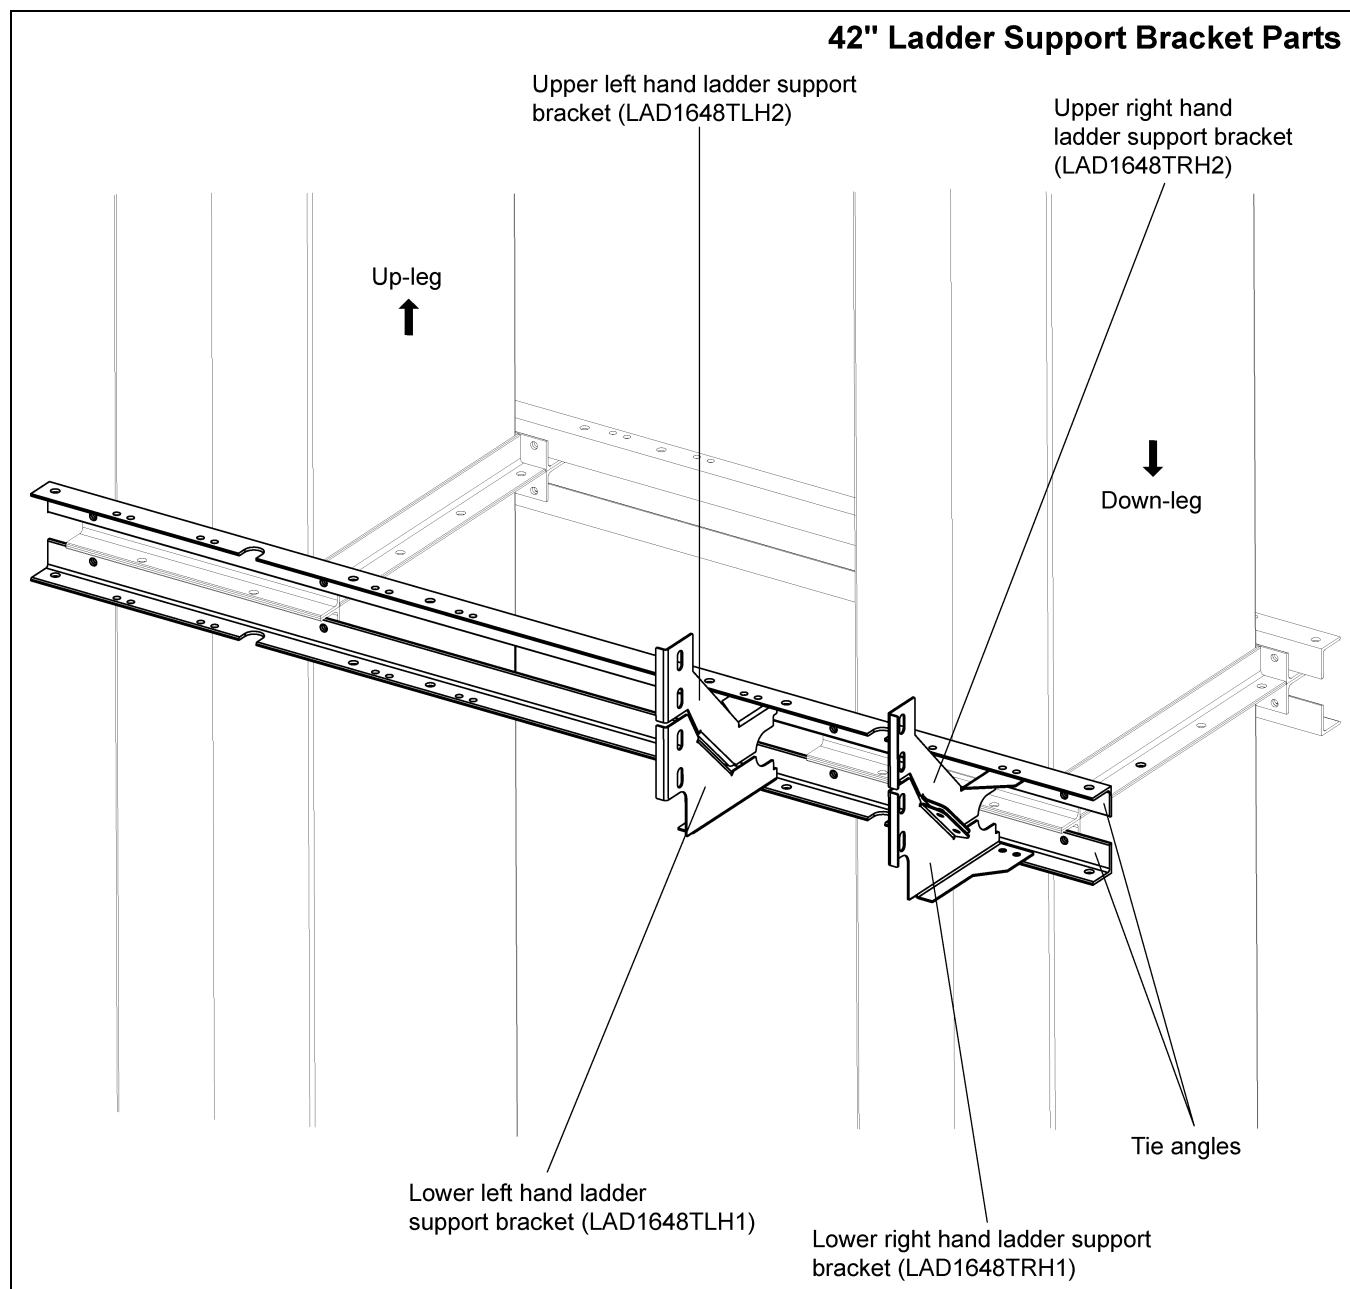
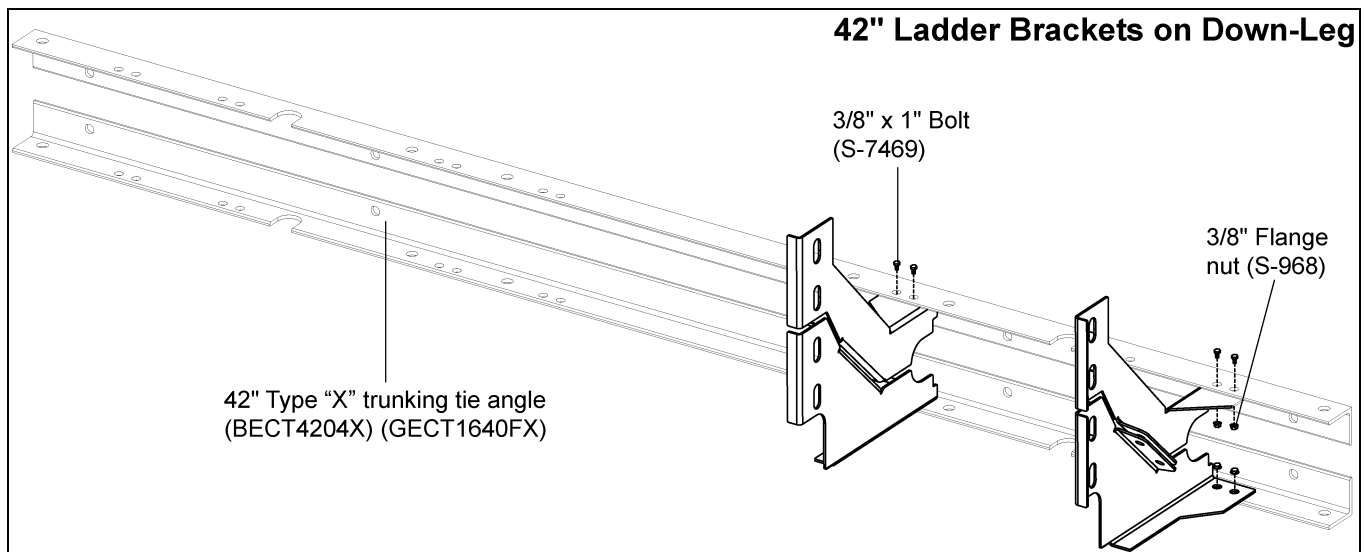
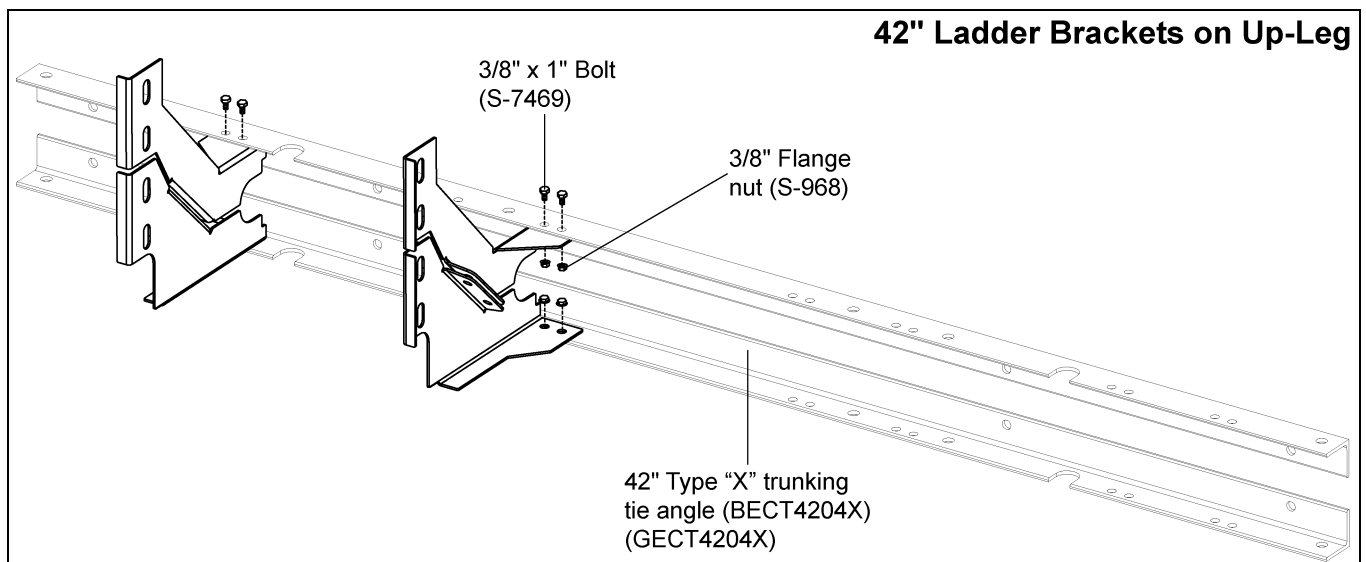

Figure 6N 42" Ladder Support Bracket Parts
Figure 6O 42" Ladder Bracket Location for Down-Leg
Figure 6P 42" Ladder Bracket Location for Up-Leg
3. Fasten flanges of brackets and brackets to tie angles using 3/8" x 1" HHCS bolts (S-7469) and 3/8" flange nuts (S-968). *(See Figure 6N below, Figure 6O and Figure 6P on Page 31.)*